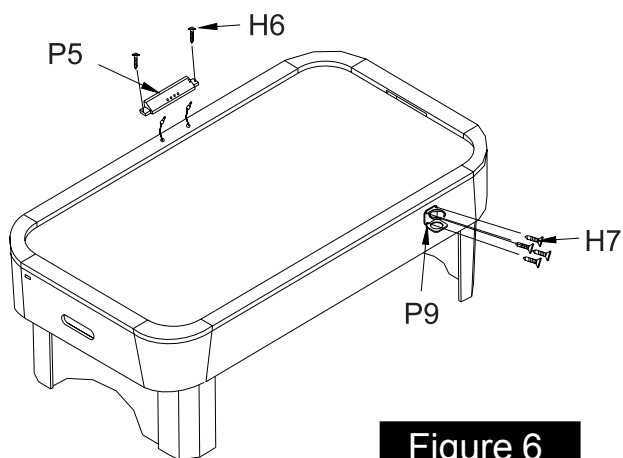

Figure 6
8. Once you have the table turned to its upright position, feed the wires from under the table through the holes in the side rail. Plug the wires into the bottom of the electronic scorer and attach the electronic scorer **P5** to the top side rail with screws **H6** as shown in **Figure 6**.
9. Attach the cup holders **P9** to the side apron using screws **H7** as shown in **Figure 6**.